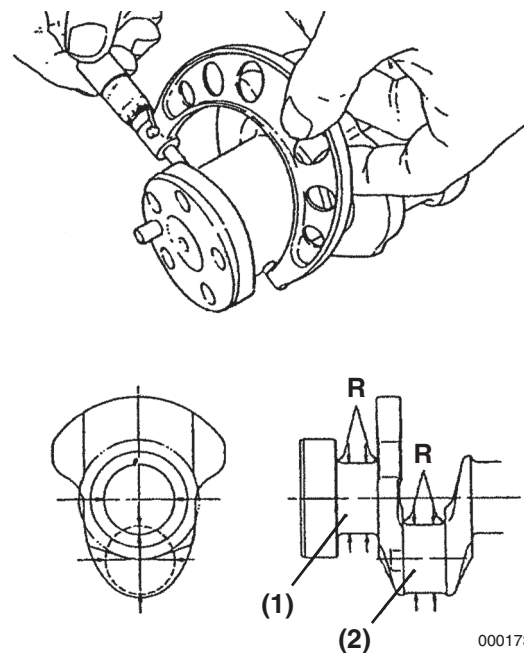

Figure 6-75
5. Measure the outside diameter of each crankpin (**Figure 6-75, (2)**) and main bearing journal (**Figure 6-75, (1)**). *See Crankshaft on page 6-8 for specifications.* Take measurements at several places around each bearing surface. If not within specification, grind the journals and install undersize bearings, or replace the crankshaft. Record the measurements.